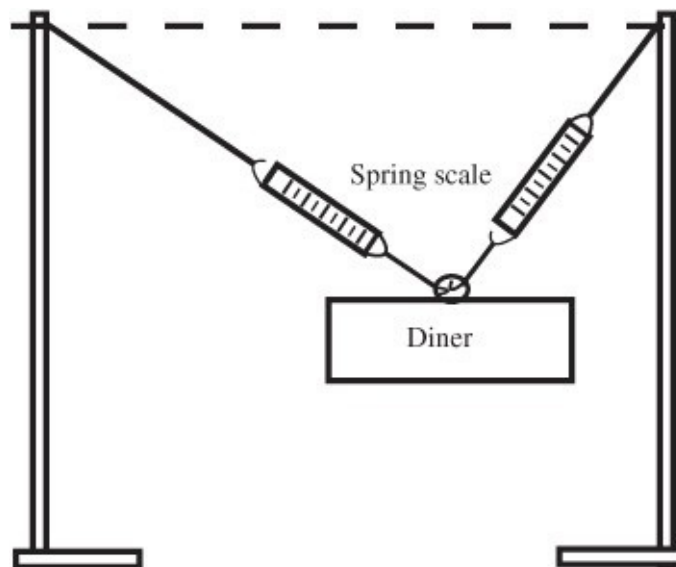

Figure 34-1
6. The apparatus should be as shown in Figure 34-1.